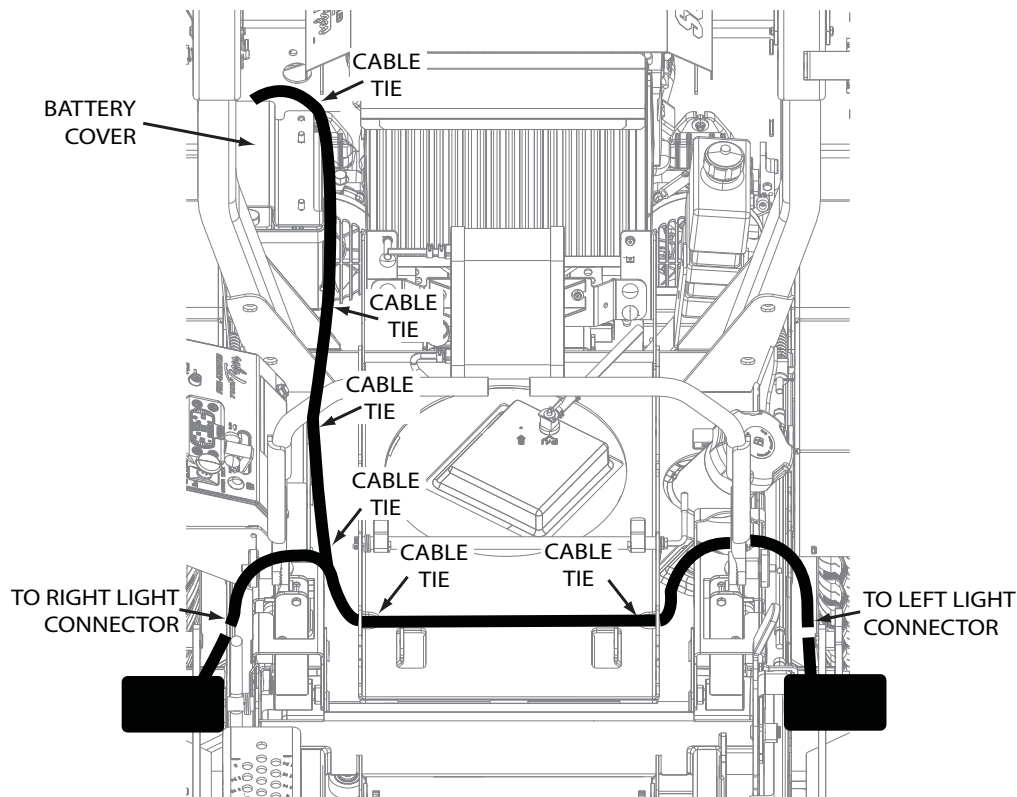

Figure 2. STT Wire Harness Routing
6. Install the (2) two lights to the mounting brackets on the left and right sides of the machine. Aim the lights forward and tilt slightly downward. Tighten the light mounting nuts. Adjustment may be needed after installation has been completed for proper light position.
7. Install the wire harness and route as shown in Figure 2.
9. Route the light wire harness on the right side of the machine to the battery. See Figure 2.
10. Route the light wire harness under the seat plate following the existing wire harness over to the left side of the machine. See Figure 2.
12. Using the cable ties supplied with this light kit, secure the light wire harness as shown in Figure 2.